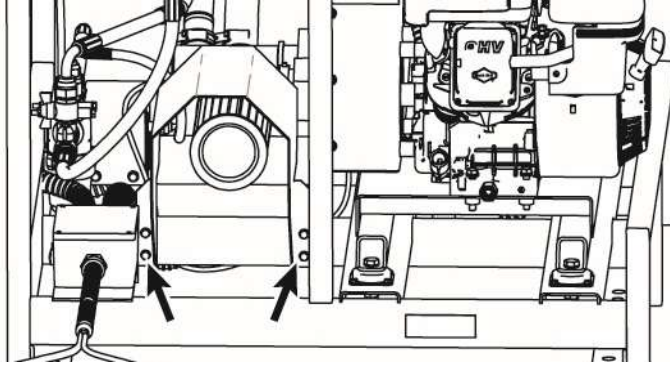

Fig. 10 – Filter Cover Bolt Locations
4. Locate the pressure switch in the junction box – see Fig. 10. Using a 2 mm hexagon (Allen) key rotate the adjusting screw until the **Air** indicator on the control box is just extinguished. Turning the screw anticlockwise will cause the indicator to illuminate and turning it clockwise will cause it to extinguish.
7. Rotate the adjusting screw anticlockwise by half the amount noted in step (6).